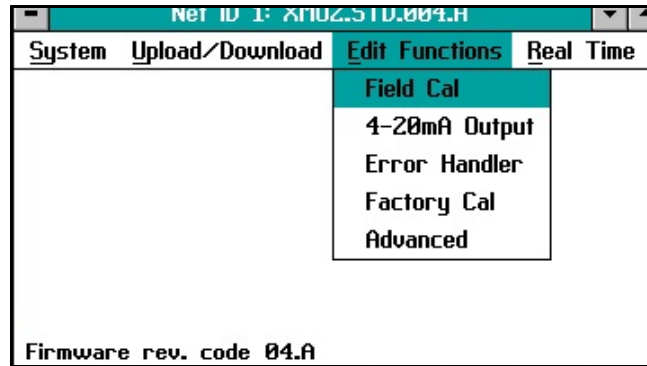

Figure 13: *Field Cal* Window
3. Click on the *Field Cal* option. In the *Field Cal* window (shown in *Figure 13 on page 31*), click on the *Configure Cal* button.
The following three buttons appear at the right of all menu windows (see *Figure 13* on page 31):
When you select the *Field Cal* option, a window similar to the one in *Figure 13* below opens.
Note: Clicking on the Next Item/Enter button selects the option listed on the status line above the option buttons (*Perform Cal* in *Figure 13* above). The option listed on the status line in any window is the option that was chosen the last time that menu was used.